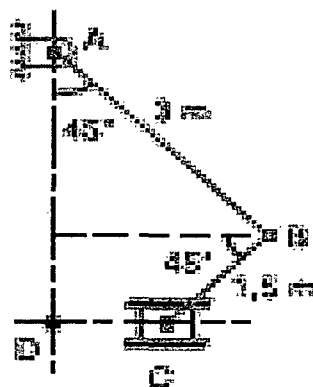

Fig 4
b. In the mechanism shown in Fig. 4, the slider C is moving to the right with a velocity of 1 m/s and an acceleration of 2.5 m/s^2 . The dimensions of various links are $AB = 3$ m inclined at 45° with the vertical and $BC = 1.5$ m inclined at 45° with the horizontal. Determine: 1. The magnitude of vertical and horizontal component of the acceleration of the point B, and 2. the angular acceleration of the links AB and BC.